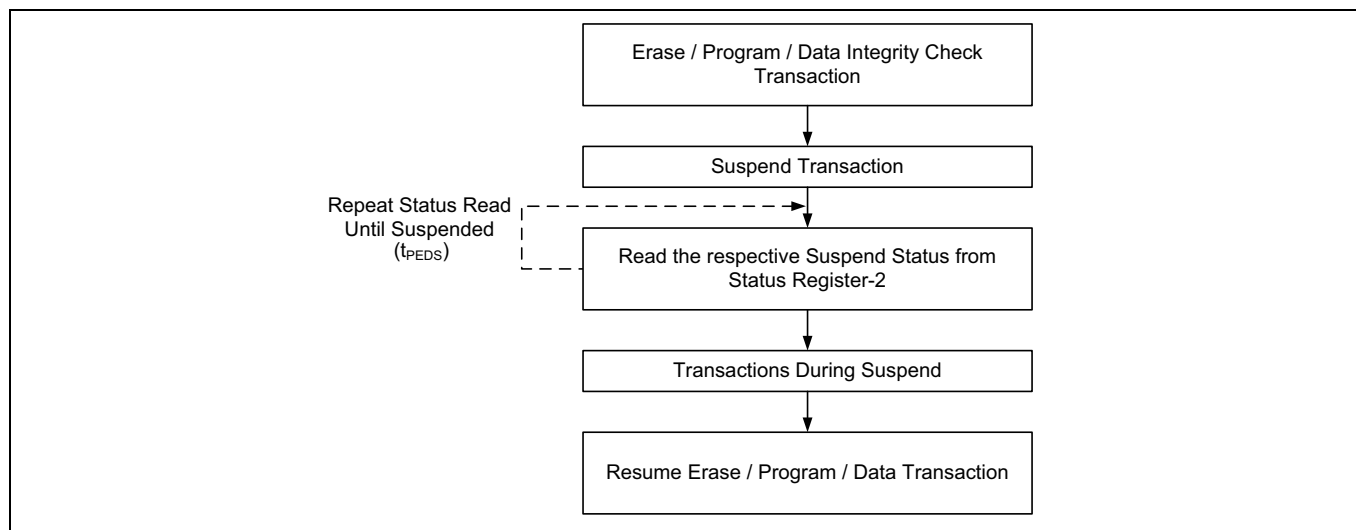

**Figure 38** Suspend and resume sequence
**Figure 38** shows the flow of suspend and resume operation.